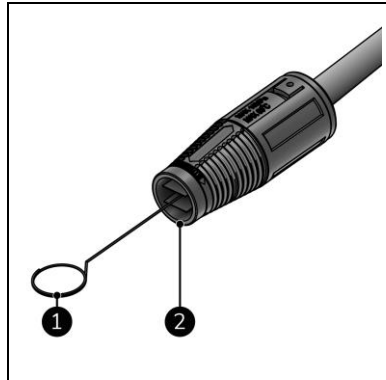

Figure 23
3. Remove the nozzle (Figure 23, pos. 2) from the jet gun (Figure 6, pos. 7).
4. Clean the nozzle with the cleaning pin (Figure 23, pos. 1).